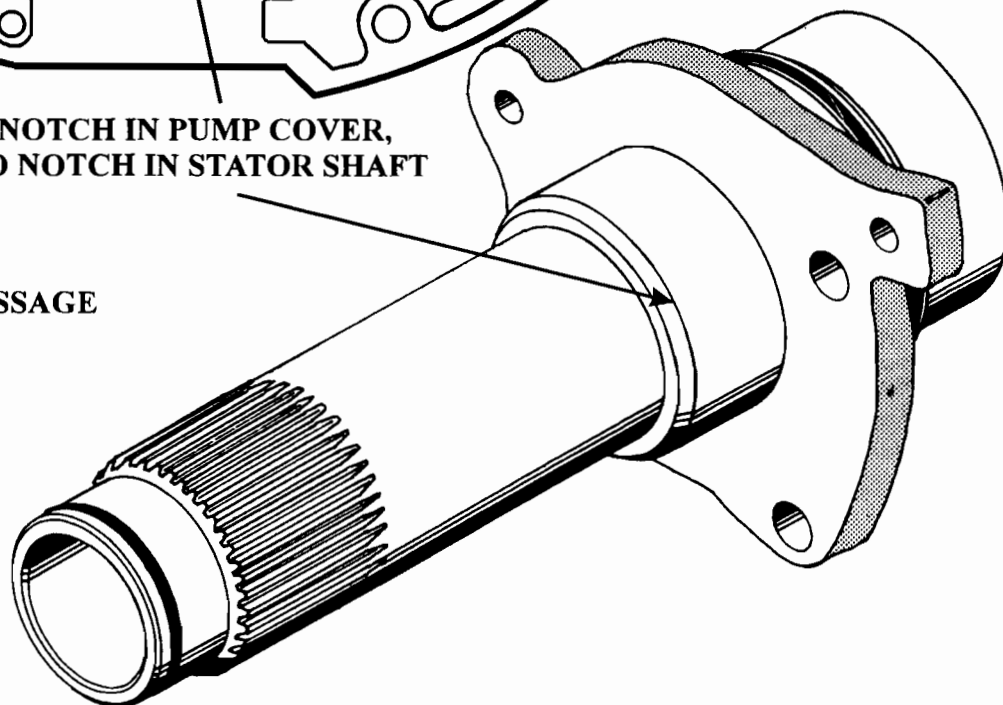

Figure 1
- (1) **89-94 MODELS** - Have a relief (Notch) cut into the *pump cover* on the inside diameter, where the stator shaft presses into the cover, creating a passage for converter apply oil to get into the "To Cooler" passage in the pump cover. Refer to Figure 1.
89-94 Model pump cover *with notch*, **MUST** be used with the stator shaft *without notch*. Refer to Figure 1.